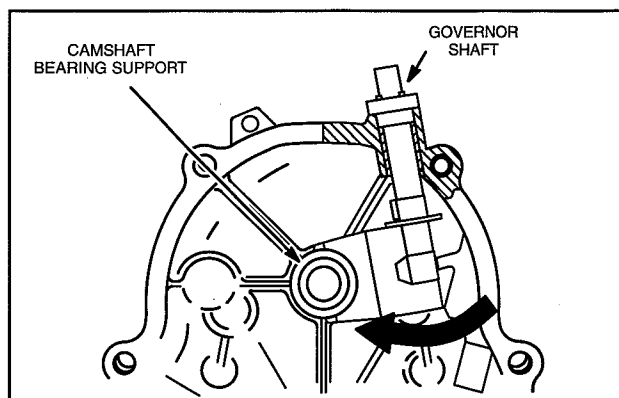

Fig. 29 – Position Governor Shaft
2. Rotate governor shaft so that paddle rests against camshaft bearing support, Fig. 29.